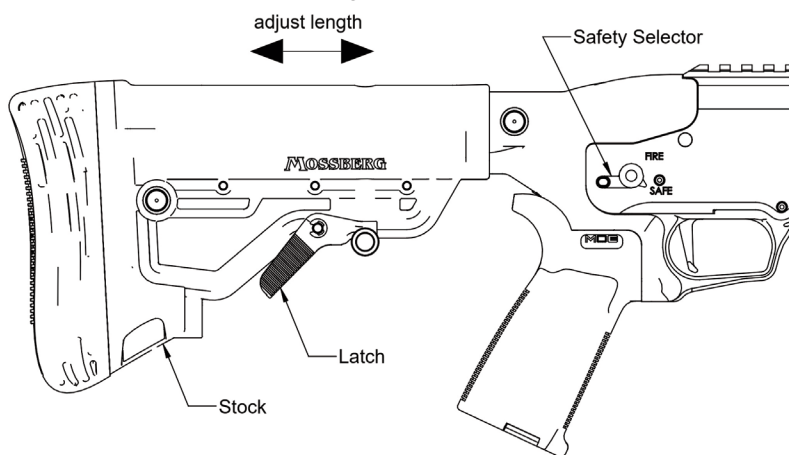

Figure 20
The Stock has five (5) positions to adjust length of pull (Figure 20). To adjust length of pull, squeeze latch and slide Stock in or out to desired position. Release latch and push on rear of Stock until the Stock locks into place.